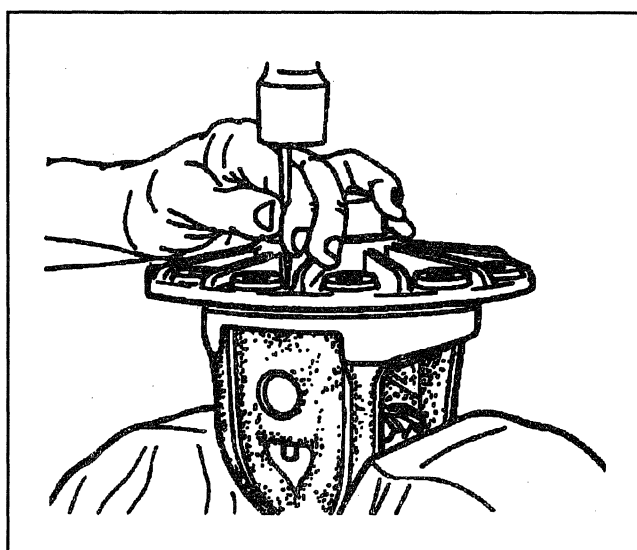

Figure 6—Removing the Roll Pin
12. Roll pin (29) from the case using a hammer and punch (Figure 6).